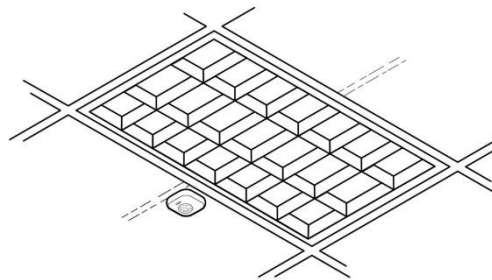

Figure 4
Step 8: Slip the excess RJ12 data cable up into the plenum area and adjust the ceiling tile to the original position. Figure 4.